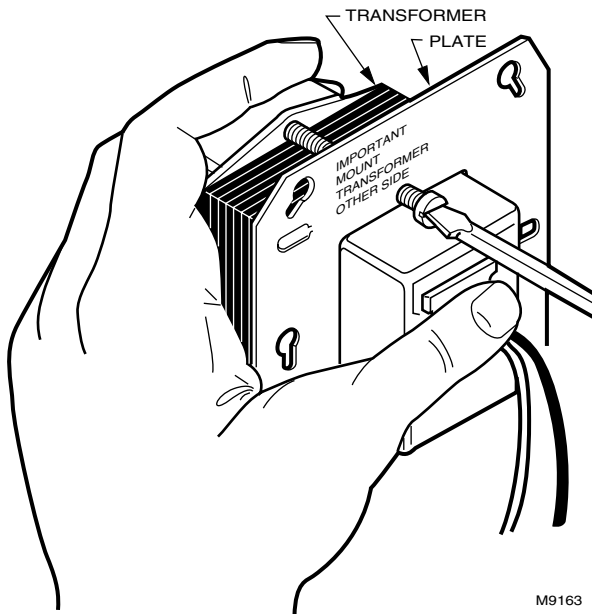

Fig. 15. Secure plate on transformer with mounting screw and tab.
- ❷ Hold the transformer with the clamp on the end bell facing you.
- ❸ With the keyhole slots up, fit the mounting plate over the primary leadwires and the end bell. Insert the small tab at the bottom of the plate into the slot in the transformer mounting foot.
- ❹ Insert the mounting screw (provided) through the holes in the plate as shown in Fig. 15. Secure the plate to the transformer, but do not overtighten the screw.